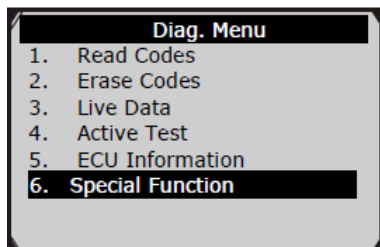

Figure 8.3
- 1) In the **Diagnostic Menu** (Figure 8.3), use the **UP/DOWN** button to select **Special Function** to do the EPB test, which includes **Brake cable replacement** and **Electric parking brake replacement**.
1. Follow the instructions above to display the **Diag. menu** screen (Figure 8.3).